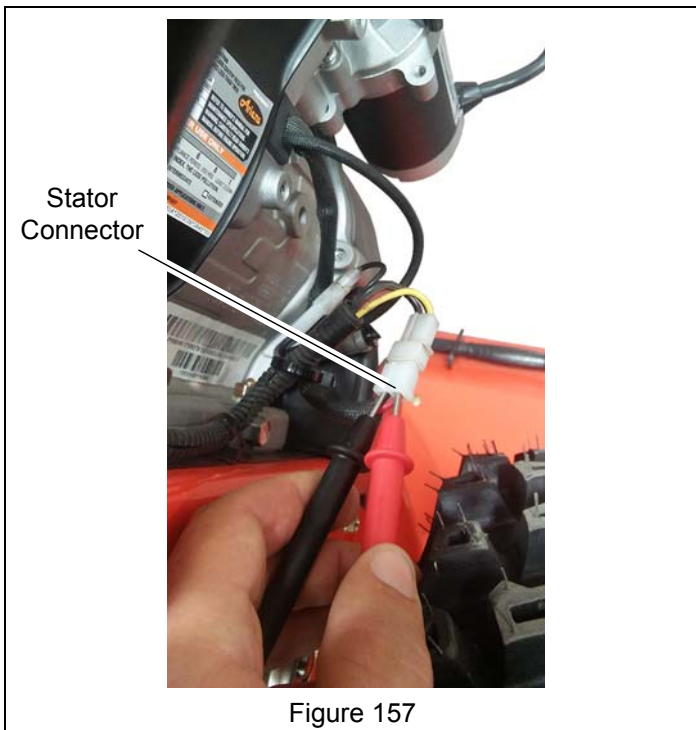

Figure 157
5. Back probe the engine stator output connector. See Figure 157.
If stator output measures over 14 V AC, replace stator. If output is within range, advance to step 3. See Figure 157.
2. Back probe the engine stator output connector. See Figure 157.